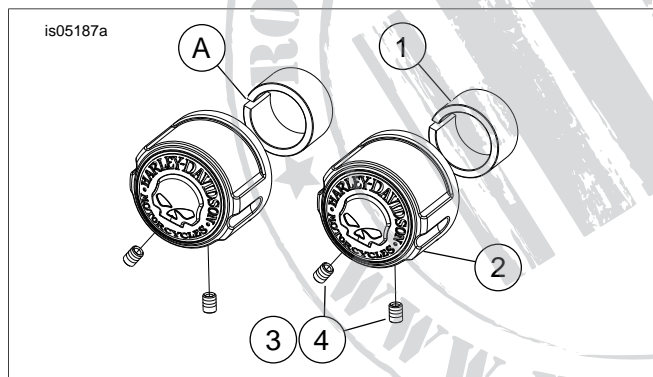
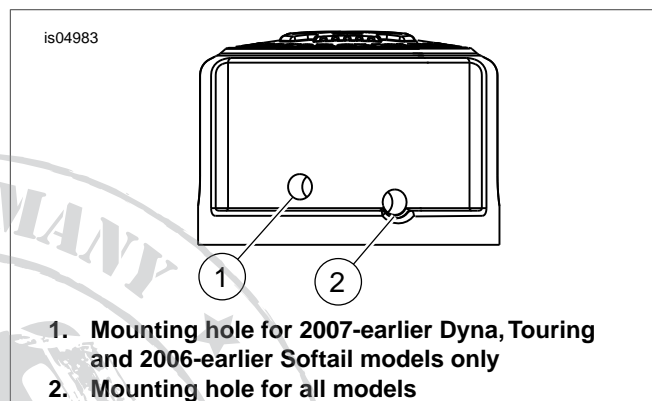

Figure 1. Front Axle Nut Cover Kit
Figure 2. Installing the Spacer and Cover
1. See Figure 1. Install spacer (1) to the axle nut and axle shaft so the slot (A) in the spacer is pointed in a 9 o'clock position.
2. Install the axle covers (2) over the spacers so the skull is in an upright, vertical position.
3. See Figure 2. Install set screws in the mounting holes (1 and 2). Tighten all four set screws securely.
1. See Figure 1. Discard the spacers (1) and install the axle covers (2) directly to the axle nut and axle shaft so the skull is in an upright, vertical position.
2. See Figure 2. Install set screws in the mounting holes (1 and 2). Tighten screw in hole (1) securely and then tighten screw in hole (2).
1. See Figure 2. Install the 0.375 inch long set screw in one of the axle nut covers using mounting hole (2). Install the cover on nut side of axle.